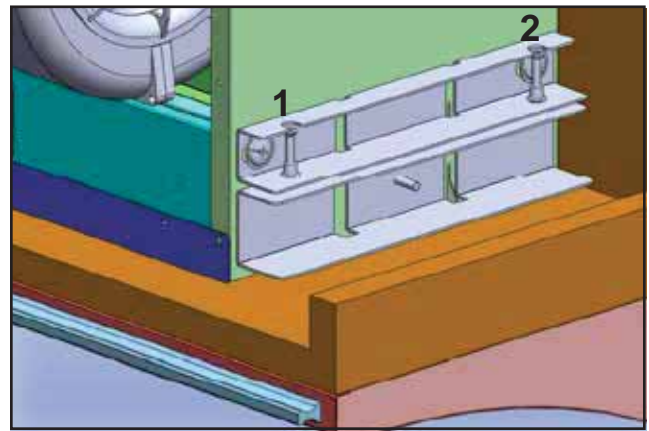

Fig.8
7) Install (2) 3/16x40 screws into the captive nuts of each upper installation bracket. Tighten screws to adjust the height of range hood until there is no gap between the cabinet bottom and front edge of hood, Fig.8. After hood is positioned, fully tighten the lower installation bracket screw from step 6, Fig.7-1.